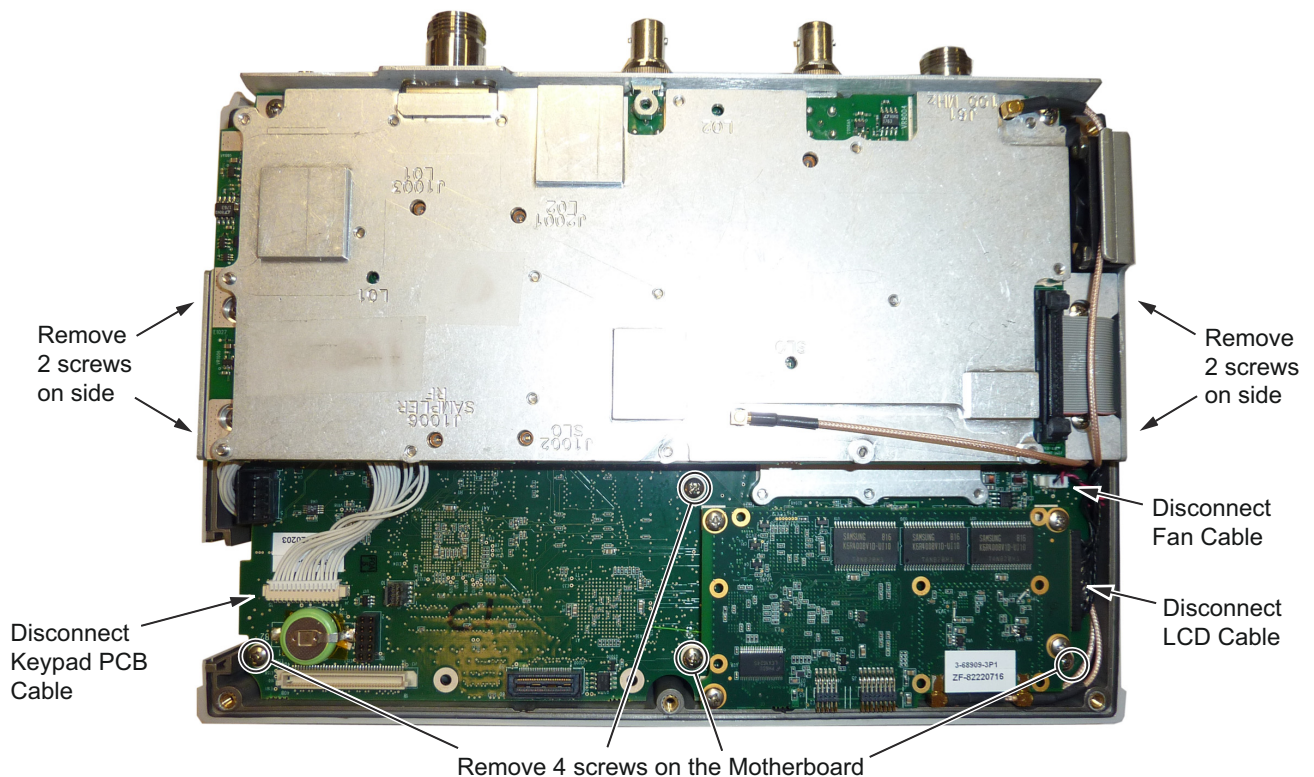

Figure 7-4. Removing the PCB Assemblies out of the Case
3. Use a Phillips screwdriver to remove the 8 screws securing the Assemblies to the Case (Figure 7-4).